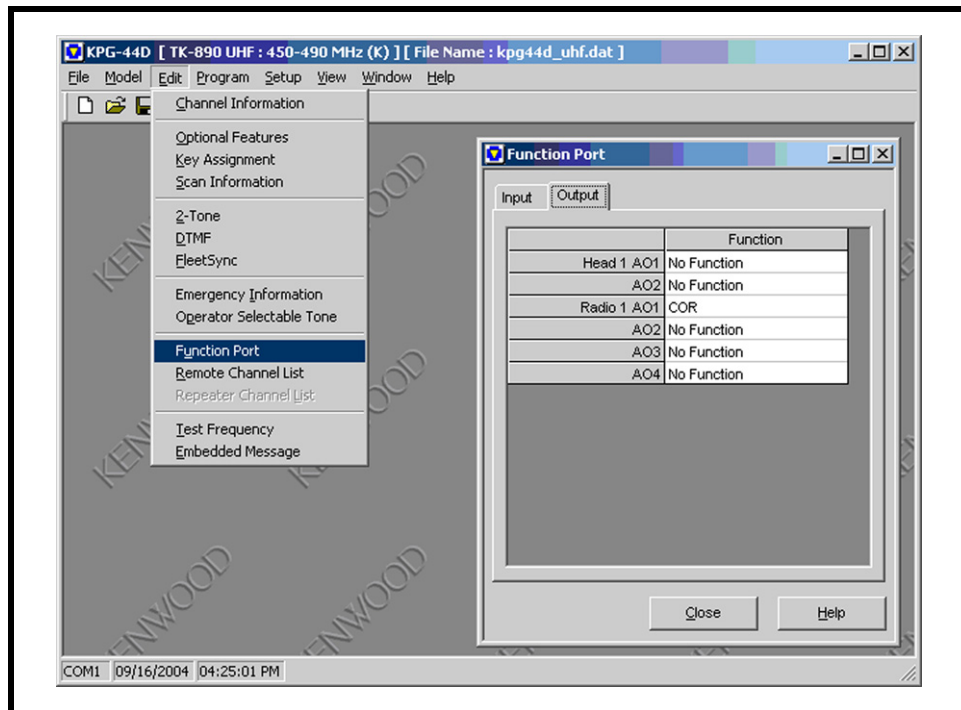

FIGURE 8. TK-x90 Function Port Output
2. Program **Function Port** window for COR in Radio 1 AO1. See Figure 8.